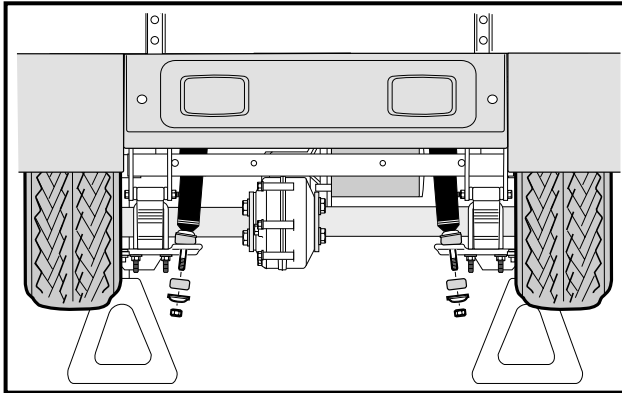
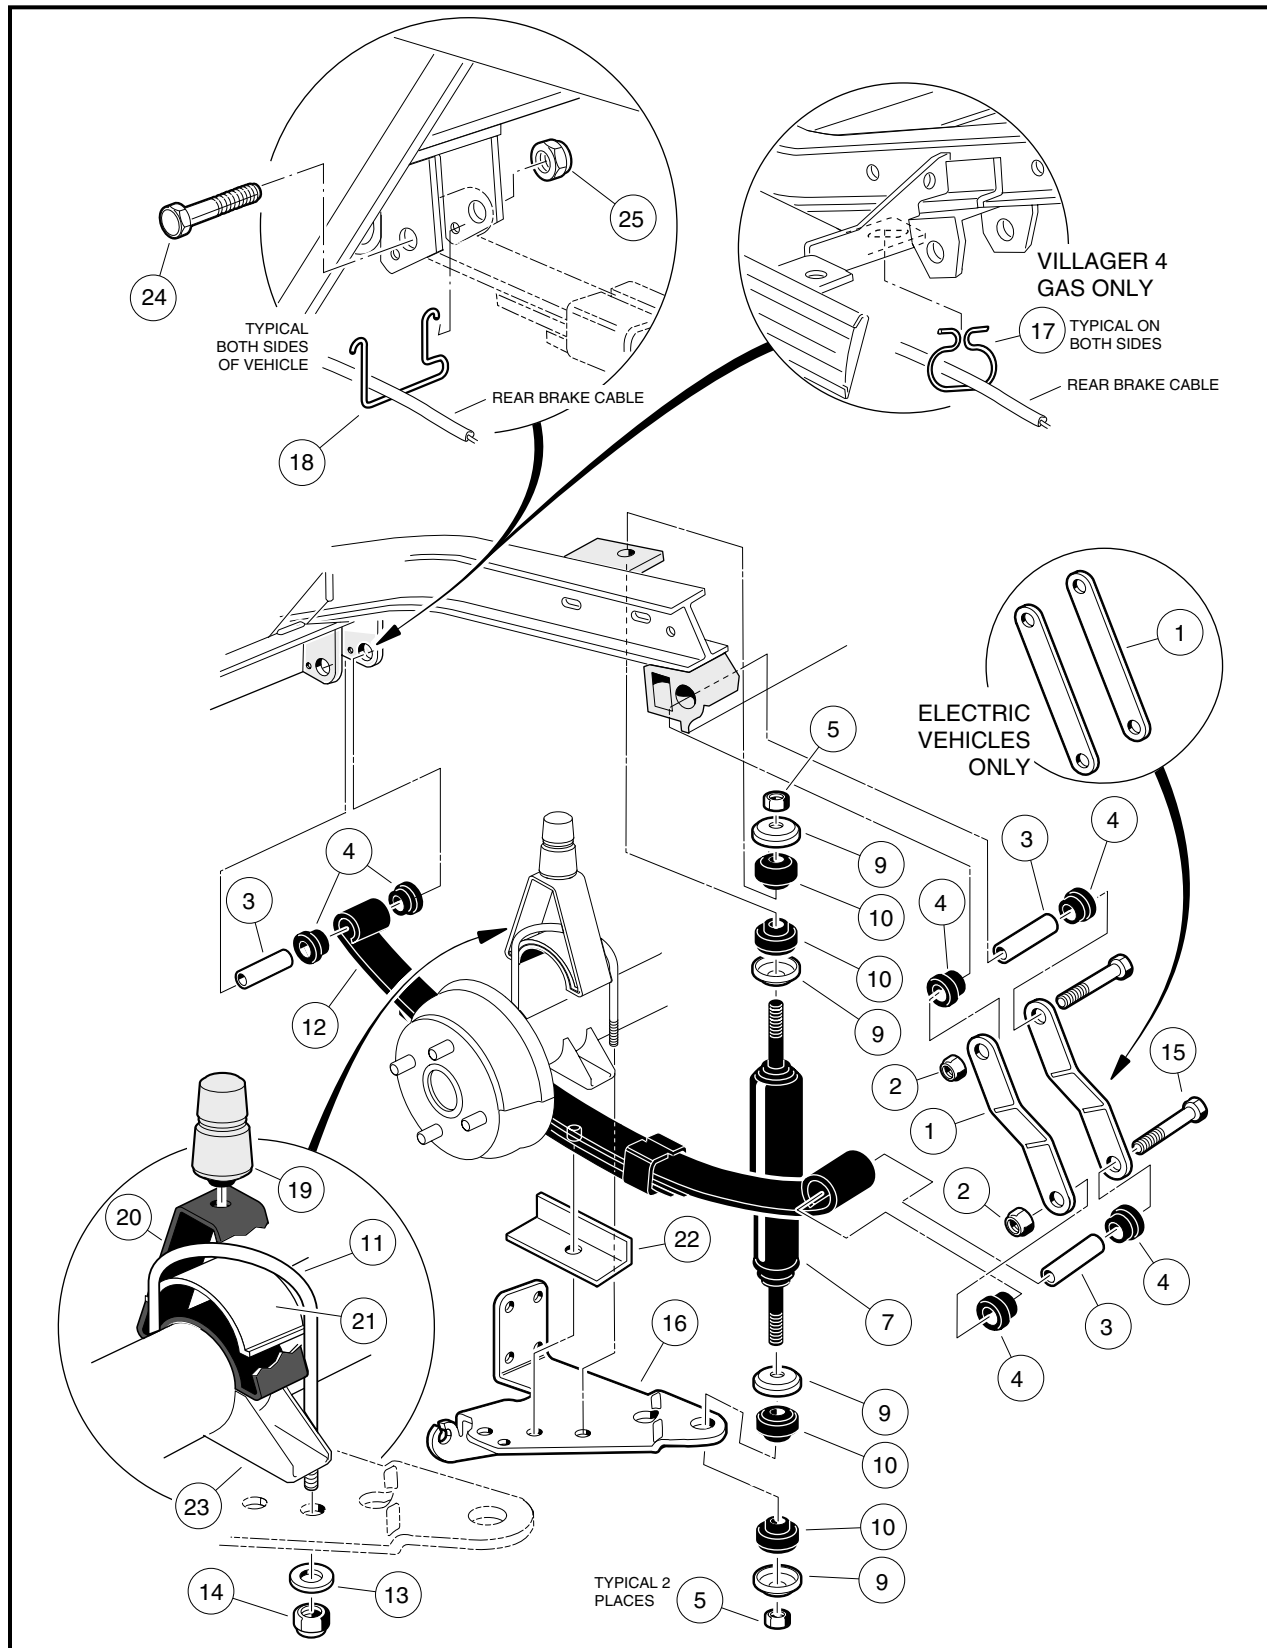
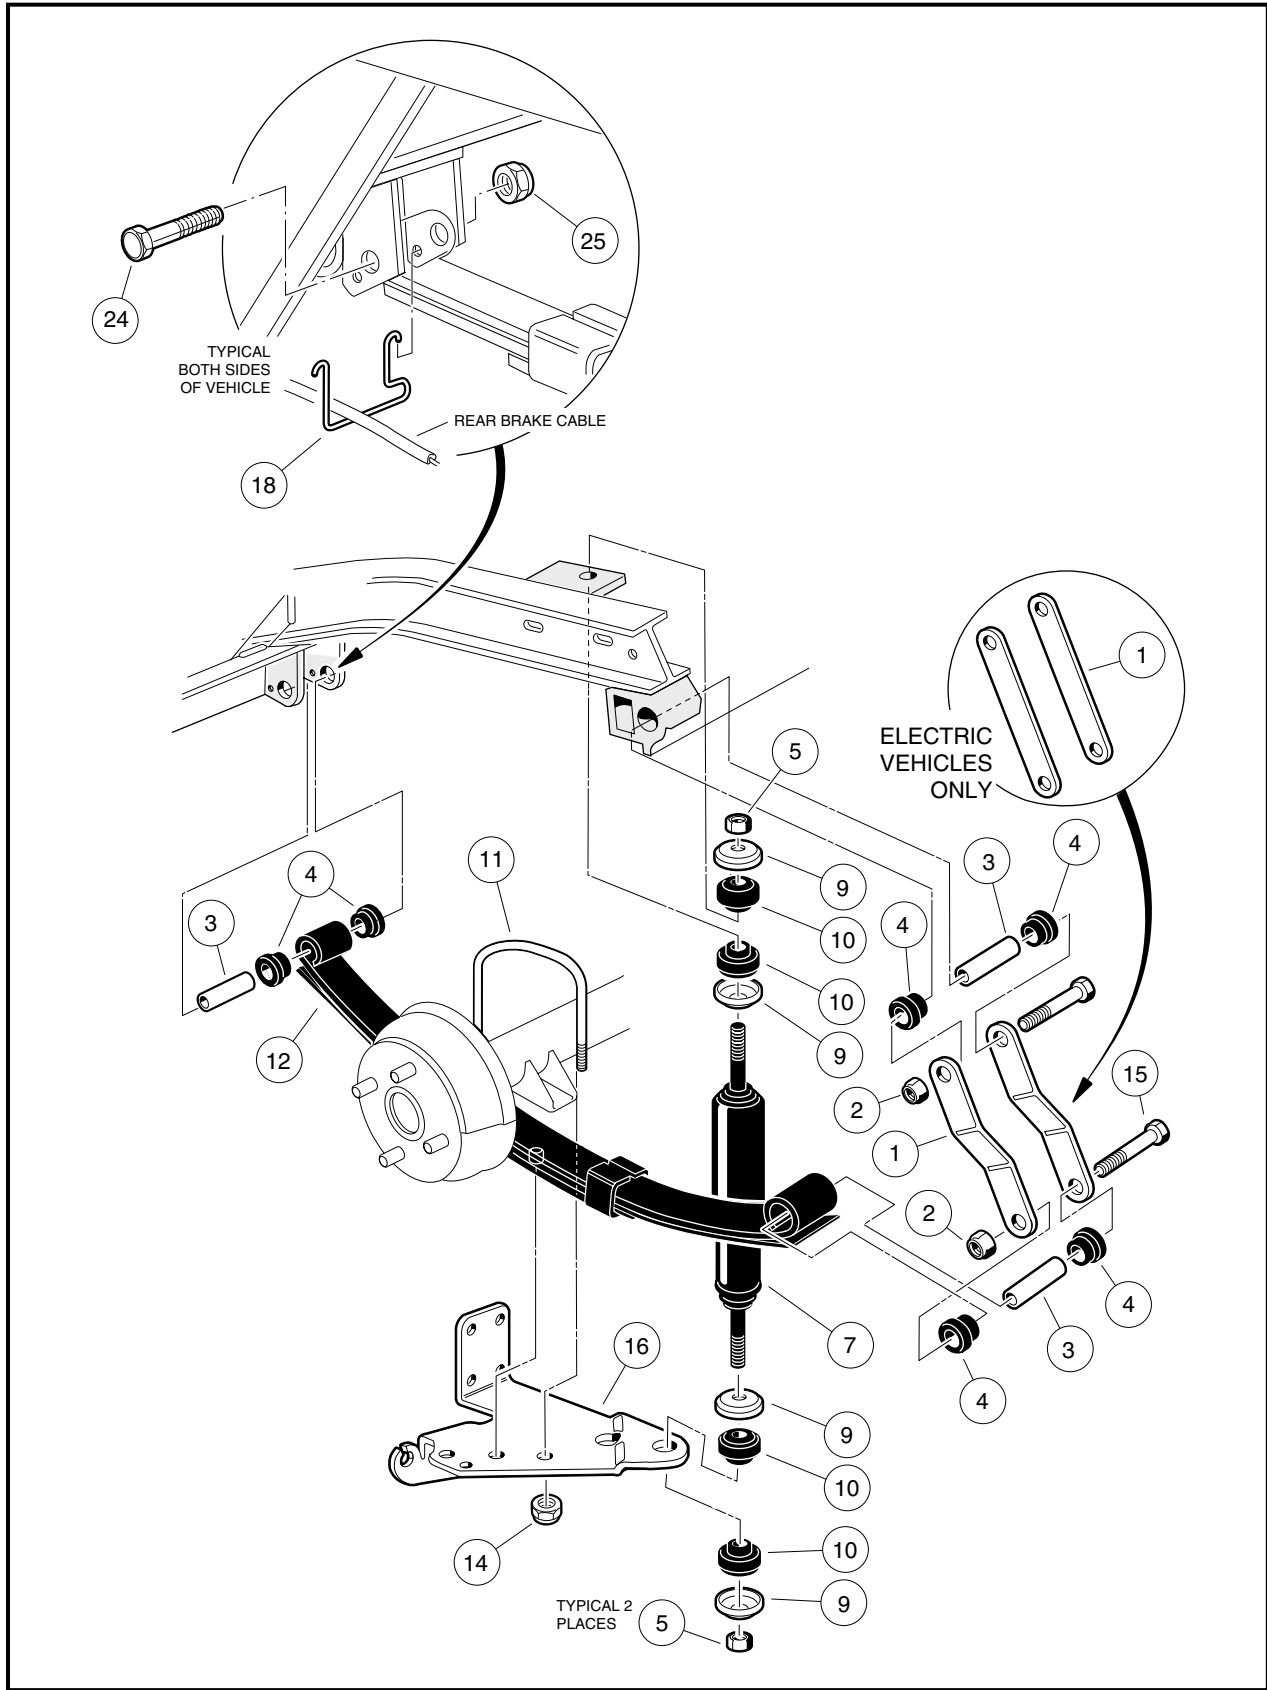

Figure 9-1 Remove Shock Absorbers
Figure 9-3 Rear Suspension – Villager 4 Vehicles
Figure 9-4 Rear Suspension – All Transportation Vehicles Except Villager 4
1. Check shock absorbers (7) for damage and fluid leakage around the lower housing of the shock absorber body. Replace damaged or leaking shock absorbers (**Figure 9-3, Page 9-6** or **Figure 9-4, Page 9-7**).
2. To remove a shock absorber (7), remove the nut (5), cup washer (9), and rubber bushing (10) from the upper shock absorber stem.
3. Remove lower mounting hardware (5, 9 and 10) on shock absorber lower mount (**Figure 9-3, Page 9-6 or Figure 9-4, Page 9-7**). See also **Figure 9-1, Page 9-3**.
2. On the upper shock absorber mount, tighten nut (5) until rubber bushing (10) expands to size of cup washer (9) (**Figure 9-3, Page 9-6 or Figure 9-4, Page 9-7**).
3. On the lower shock absorber mount, install mounting hardware. Tighten the nut (5) until the rubber bushing (10) expands to the same diameter as the cup washer.
**NOTE:** Villager 4 vehicles are equipped with jounce bumpers (**Figure 9-3, Page 9-6**).
5. Remove lower nut (5), cup washer (9), and rubber bushing (10) from shock absorber (7) (**Figure 9-3, Page 9-6 or Figure 9-4, Page 9-7**).
- 6.1. Remove the lock nuts (14) and flat washers (13) (if present) attaching the U-bolt (11) to the shock mount bracket (16). Remove jounce bumper mount (20) and spacer (21) (**Figure 9-3, Page 9-6**).
- 6.2. Allow shock mount bracket (16) to rotate downward and remove spring retainer (22). Do not disconnect brake cable from bracket (**Figure 9-3, Page 9-6**).
- 7.1. Remove the lock nuts (14) attaching the U-bolt (11) to the shock mount bracket (16). Do not disconnect brake cable from bracket (**Figure 9-4, Page 9-7**).
8. Raise axle with floor jack until axle saddle (23) is 1 inch (2.5 cm) above spring (**Figure 9-3, Page 9-6**).
9. Remove bolt (15) and lock nut (2) attaching the leaf spring (12) to the rear shackle (1) (**Figure 9-3, Page 9-6 or Figure 9-4, Page 9-7**).
10. Allow rear of leaf spring (12) to rest on the ground and remove the bolt (24) and lock nut (25) attaching the front of the spring to the vehicle frame (**Figure 9-3, Page 9-6 or Figure 9-4, Page 9-7**). Remove spring from vehicle.
11. Inspect the rubber bushings (4) and steel sleeves (3) in the spring eyes and replace them if they are worn or damaged (**Figure 9-3, Page 9-6 or Figure 9-4, Page 9-7**).
1. Install rubber bushings (4) and steel sleeves (3) into leaf spring eyes if bushings were removed (**Figure 9-3, Page 9-6 or Figure 9-4, Page 9-7**).
2. Place front of leaf spring (12) into vehicle frame and insert bolt (24) through frame and leaf spring eye. Install lock nut (25) and tighten to 15 ft-lb (20.3 N·m).
3. Align the other end of leaf spring with the holes in the spring shackles (1). Insert bolt (15) through leaf spring eye and shackles. Install lock nut (2) and tighten to 15 ft-lb (20.3 N·m). Lower transaxle onto leaf spring (12).
- When placing transaxle on spring, be sure to position locating bolt on the spring in the locating hole in the transaxle saddle (23) (**Figure 9-3, Page 9-6**).
- 4.1. Install spring retainer (22) and shock mount bracket (16) onto locating bolt at bottom center of leaf-spring (**Figure 9-3, Page 9-6**). See preceding **CAUTION**.
- 4.2. Position jounce bumper mount (20) with spacer (21) onto axle tube. Install U-bolt (11), flat washers (13) (if present), and lock nuts (14). Tighten U-bolt to 25 ft-lb (34 N·m) (**Figure 9-3, Page 9-6**).
- 5.1. Install shock mount bracket (16) onto locating bolt at bottom center of leaf-spring (**Figure 9-4, Page 9-7**). See preceding **NOTE**.
- 5.2. Install U-bolt (11) and lock nuts (14). Tighten U-bolt to 25 ft-lb (34 N·m) (**Figure 9-4, Page 9-7**).
1. Grip jounce bumper (19) and pull from bumper mount (20) (**Figure 9-3, Page 9-6**).
1. Insert jounce bumper (19) into bumper mount (20) (**Figure 9-3, Page 9-6**). Make sure the entire circumference of bumper is seated firmly in mounting hole.